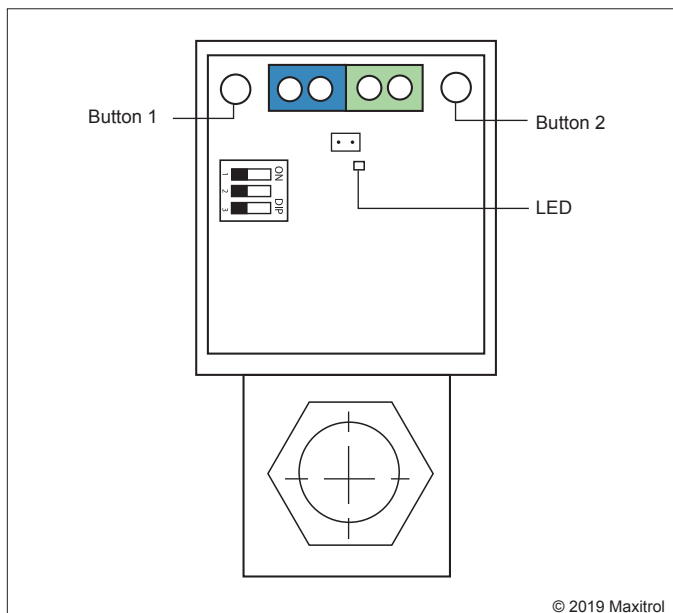

Figure 4: EXA Modulating Valve Series Adjustment Controls
The EXA STAR modulating valve series has two (2) buttons and a communication LED for the user interface. The buttons are used to set the valve for high and low fire settings (see figure 4).